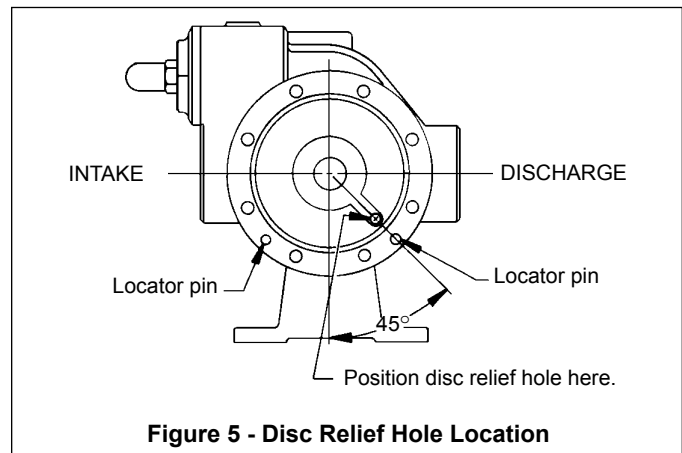

Figure 5 - Disc Relief Hole Location
1. Align the liner keyway with the setscrew (74) that extends down into the pump casing (12) and start the liner (41) into the casing. The word "INTAKE" cast on the liner must face the intake port of the pump casing. Uniformly tap the outer edge of the liner with a rubber mallet to fully insert into the casing.
2. Place the disc (71) against the liner (41) with the seal cavity outward and disc relief hole located as shown in Figure 5.
3. If the pump is equipped with an optional four-vane rotor and shaft (13A), hold the two bottom vanes (14) in place while inserting the two push rods (77).
4. After the bottom vanes (14) (and push rods, (77) if equipped) are installed, carefully insert the non-driven end of rotor and shaft into the casing (12).
5. Install all remaining vanes (14) into the top positions of the rotor.
6. Install the disc (71) on the inboard side of the pump with the seal cavity facing outward and the disc relief hole located as shown in Figure 5.
7. Install a new head O-ring (72) in the groove between the disc (71) and the casing(12).